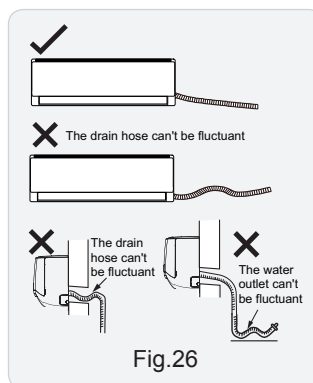

Fig.26
(2) Slant the drain hose slightly downwards. The drain hose Can't be curved, raised and fluctuant, etc.(As show in Fig.26)